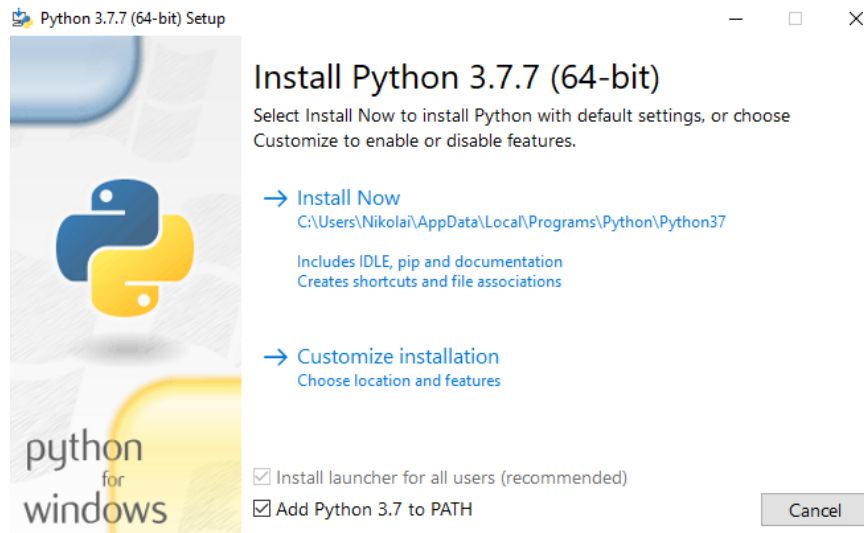

Figure 16: Python Installation Procedure.
2. Check the `Add Python 3.7 to PATH` checkbox (see Fig.16).